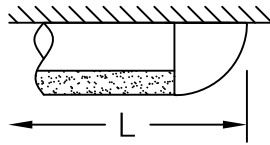

**fig 3b**
- Note:* The aluminum is supplied in a plastic sleeve, see **fig 3a**, or with a protective “peel-off” coating on one side, see **fig 3b**, to prevent damage to the anodized surface. Be sure to orient the best surface or “peel-off” coating toward the most exposed or visible direction.